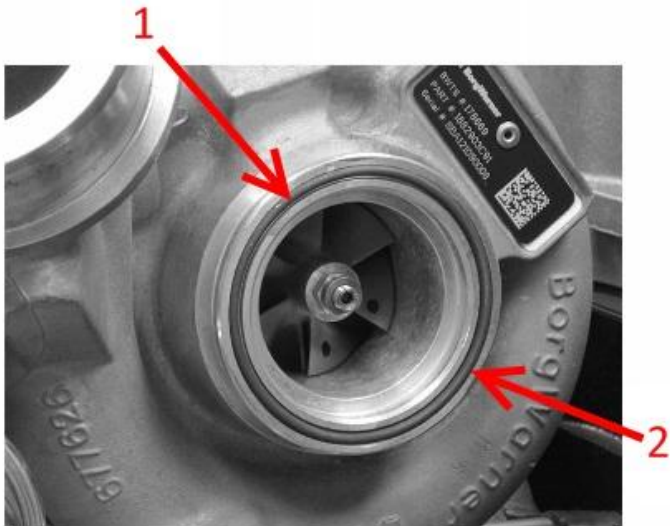

Figure 20: HP Turbocharger O-Ring
18. Install new O-ring (**Figure 20**, Item 1) into groove on HP turbocharger (**Figure 20**, Item 2).